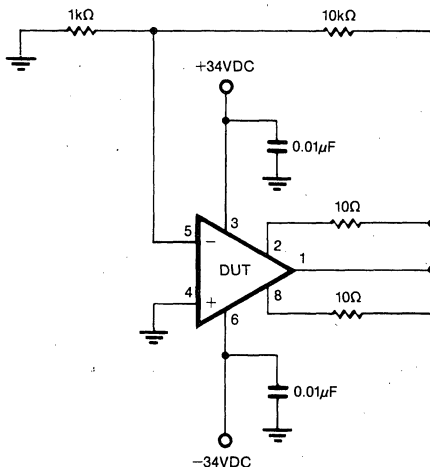

FIGURE 3. Test Circuit—Burn-in and Operating Life Test (Condition B).
- (1) Test condition B or D
- (2) Test circuit is Figure 3 herein for condition B
- (3) $T_A = +125^\circ\text{C}$ minimum
- (4) Test duration is 160 hours minimum
- (4) Test condition is 1000 hours minimum